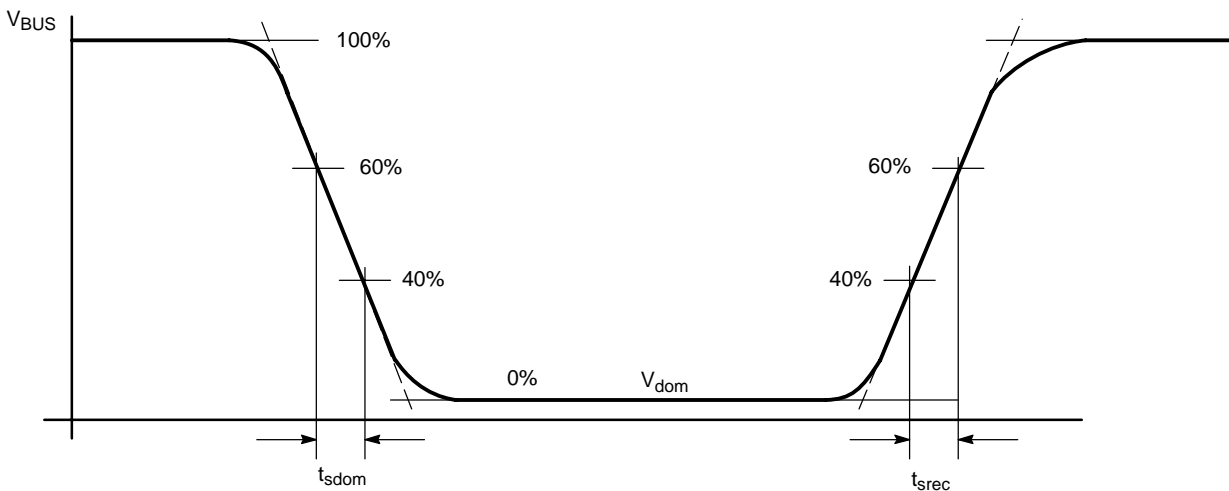

Figure 7. Slope Time and Slew Rate Calculation
12. See Figure 7 – Slope Time Calculation.